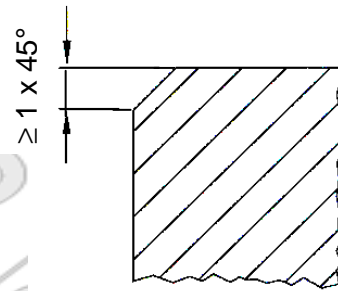

Fig. 2
- ◆ To avoid chipping the edges during turning, boring or milling, chamfered edges are advantageous, providing a smoother transition between the cutting tool and the plastics work. Refer to figure 2.